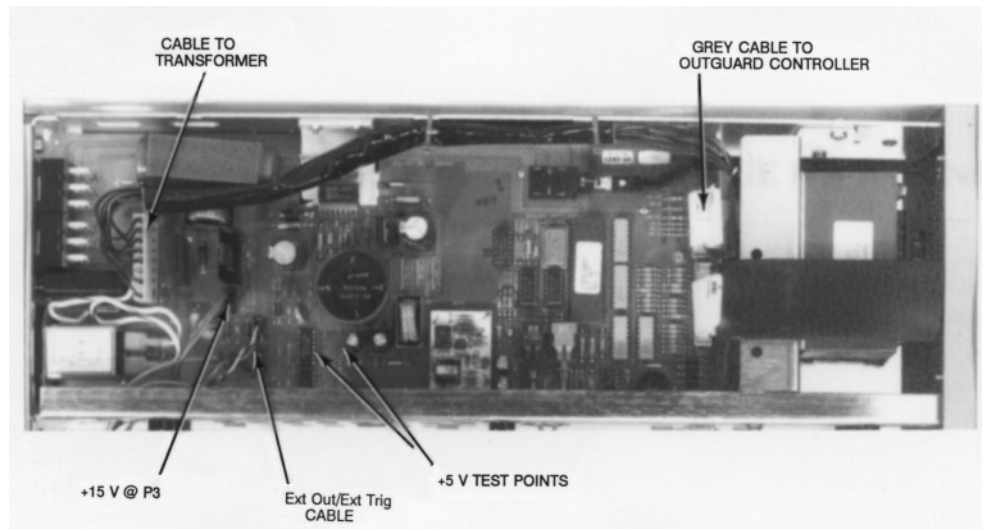

Figure 29. Outguard Power Supply
2. Refer to Figure 29 to locate the Ext Out/Ext Trig cable plugged in on the Outguard Power Supply (A6) assembly. Unplug the cable from socket P301.
2. Refer to Figure 29. Unplug the 2-pin cable from socket P3. The cable is connected to the fan.
3. Turn the instrument on. Use a digital multimeter to measure for approximately +15 V at socket P3, as shown in Figure 29.
- b. Refer to Figure 29 to locate the 8-pin cable that connects the Outguard Power Supply (A6) assembly to the power transformer. Unplug the cable at the power supply assembly.
2. Refer to Figure 29. With the test digital multimeter, check for +5 V (± 0.25 V) at the test points shown in the figure.
6. Refer to Figure 29. Unplug the grey 20 pin cable connected to the Outguard Controller (A5) assembly.